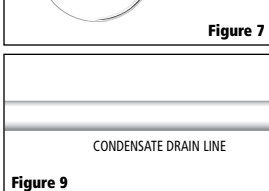

Figure 9
15. Glue condensate line from center leg of Tee to outside building (Figure 9).